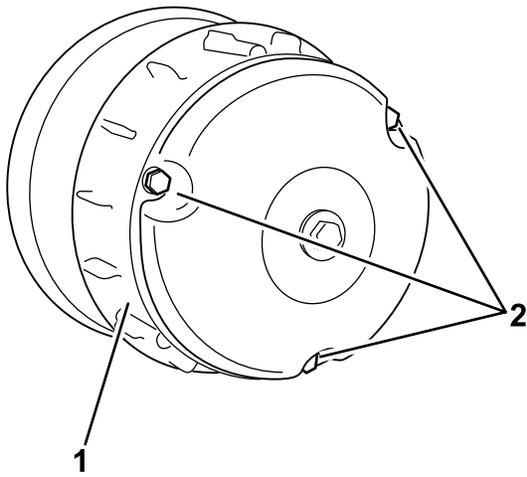

Figure 63
- Remove the 3 bolts securing the cover to the clutch, and remove the cover (Figure 63).
4. Install the clutch cover and secure it with the 3 bolts (Figure 63) that you removed in 2.